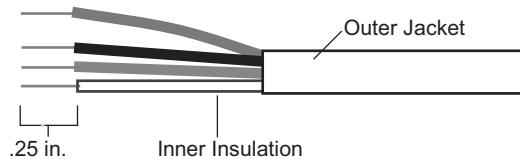

Fig. 14 — Rnet Cable Wire
2. Strip about 1/4 in. of the inner insulation from each wire (see Fig. 14).